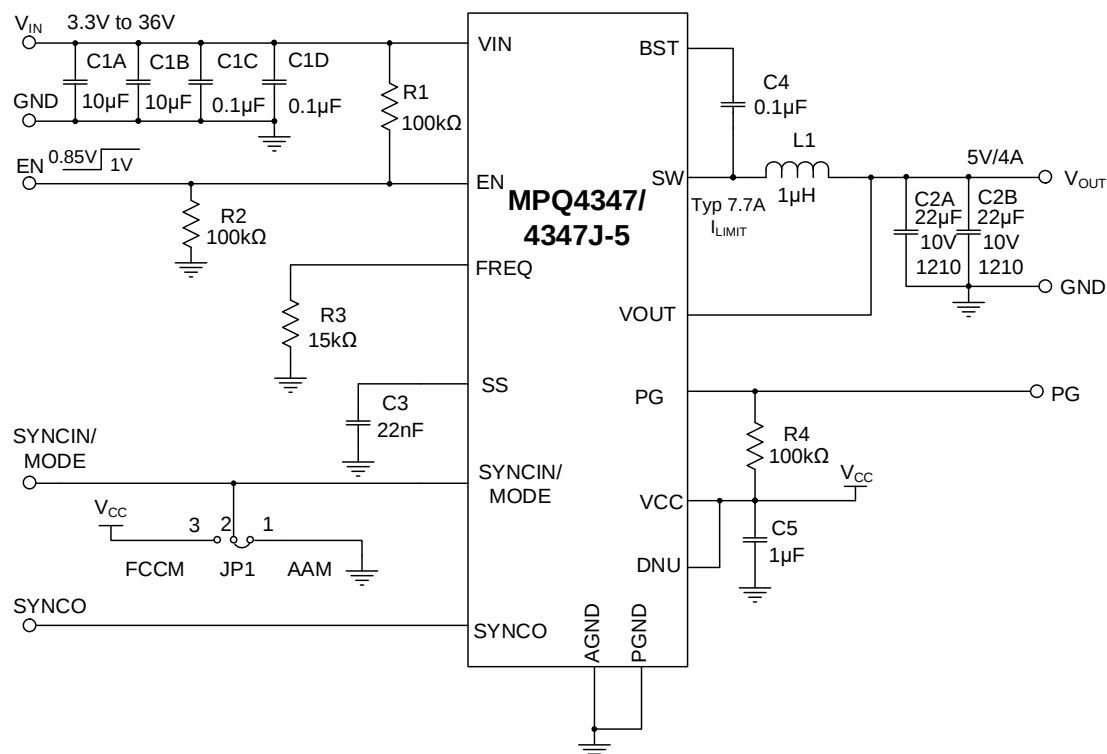

Figure 9: Typical Application Circuit ($V_{OUT} = 5V$, $f_{SW} = 2.2MHz$)
12) The recommended PCB layout is based on Figure 9 on page 46.